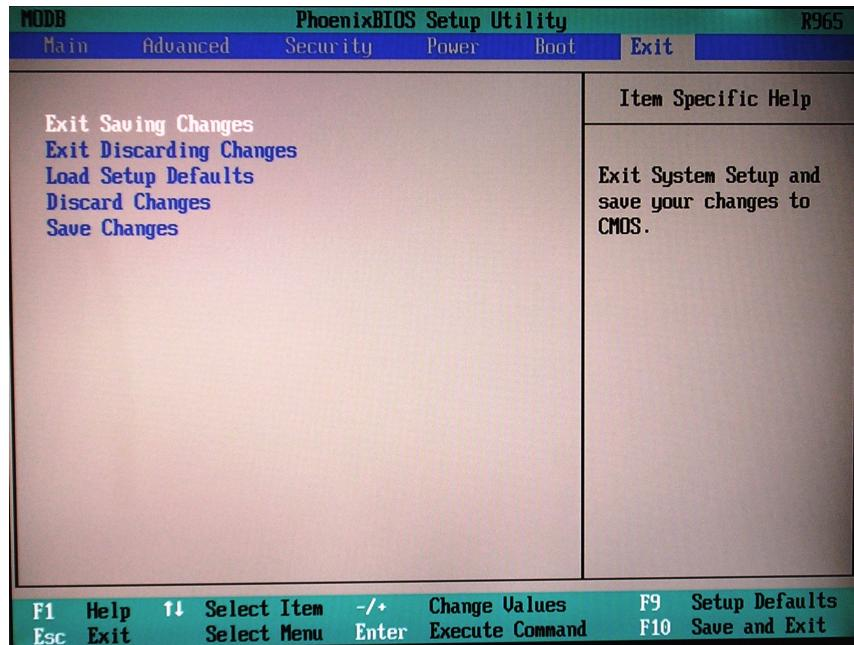

Figure 8-69 BIOS Exit Screen
11) Press **<F10>** to **Exit Saving Changes** as shown in Figure 8-69.